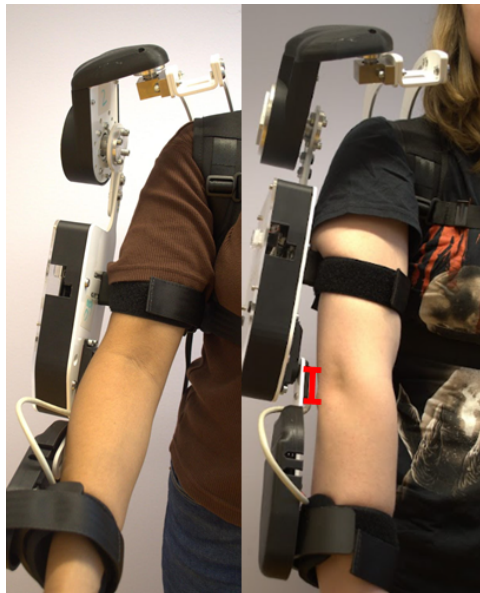

Figure 3: *Correct alignment of elbow joint (left) and incorrect alignment (right), misalignment marked in red.*
3. Tighten the straps around the elbow and the wrist and check alignment with the elbow joint according to Figure 3.
2. To align the elbow, loosen the bolts on the inside of the shoulder joint illustrated in Figure 5. Use the 3.0 Allen key to do this. Slide the arm such that the elbow joint of the exoskeleton and the user is aligned such as in Figure 3. Tighten the bolts.